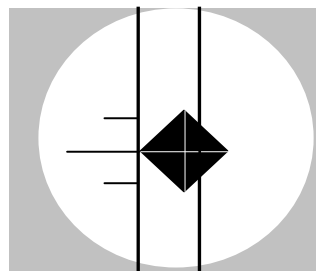

Figure 5-10 Move Left Filar Line to left tip
3. Turn the filar positioning knob of the measuring microscope to move the left line to the left indent tip and perpendicular to it as Figure 5-10 illustrates. This operation will move both lines simultaneously .